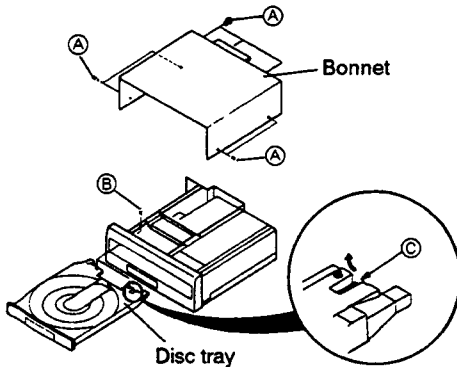

Fig. 7
1. Remove the seven screws (A) that stabilize the bonnet and take off the bonnet. (Fig. 7)
2. Remove the two tray stopper screws (B) and press the OPEN/CLOSE button to put the tray unit in the open position. (Fig. 7)
3. While pushing the hook (C) on the right rear of the disc tray to the left, pull out the tray unit. (Fig. 7)